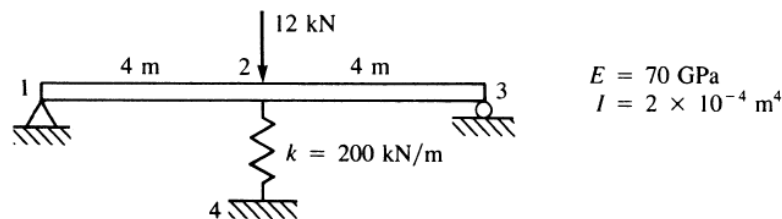

Figure 4
- 2B. For the beams shown in Figure 4, determine the displacements and the slopes at the nodes. (05)